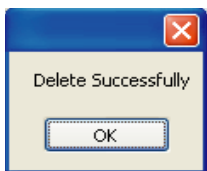
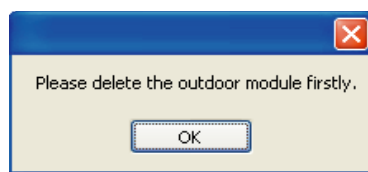
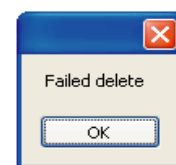

Fig.4-22
Fig.4-23
Fig.4-24
- c、 Delete wired controller: Select an existing wired controller (as above method), and click “Delete” , if there is no outdoor module controlled by any wired controller (see Fig. 4-22), the one could be deleted; if there are outdoor modules controlled by wired controller (see Fig. 4-23), a failed delete message box would pop up (see Fig. 4-24). As long as delete all modules under connect the wired controller, the wired controller could be deleted.